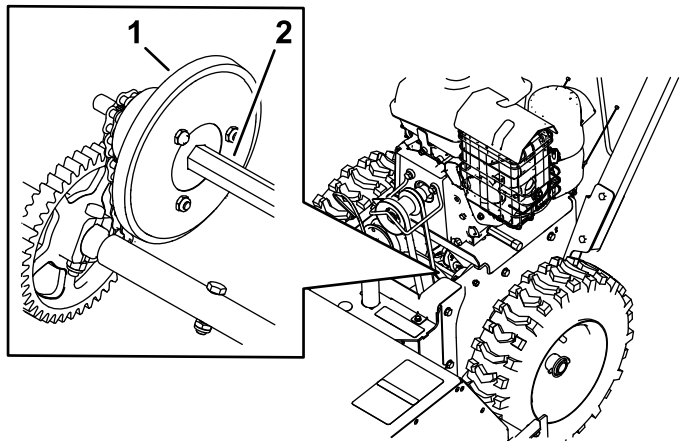

Figure 24
4. Dip a long, clean, small-tipped paint brush in automotive engine oil and lightly lubricate the hex shaft (Figure 24).
Important: Do not get oil on the rubber wheel or the aluminum friction-drive plate as the traction drive will slip (Figure 24).